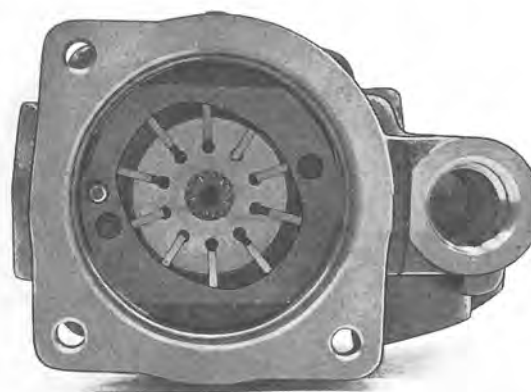
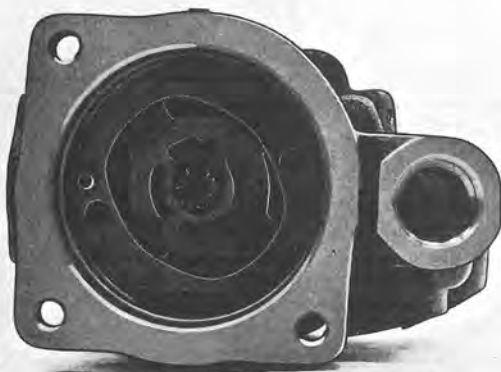

Fig. 6-94. Rotor blades installed
Fig. 6-93. Intermediate piece installed
7. Fit the intermediate piece (Fig. 6-93): the small hole on the pin, both the other holes opposite the plate holes.
8. Fit the O-ring (17) in position in the housing.
9. Fit the rotor (25) with the smooth drill facing the drive side. Fit the 10 blades (15) with the rounded surface outwards towards the intermediate piece (Fig. 6-94).